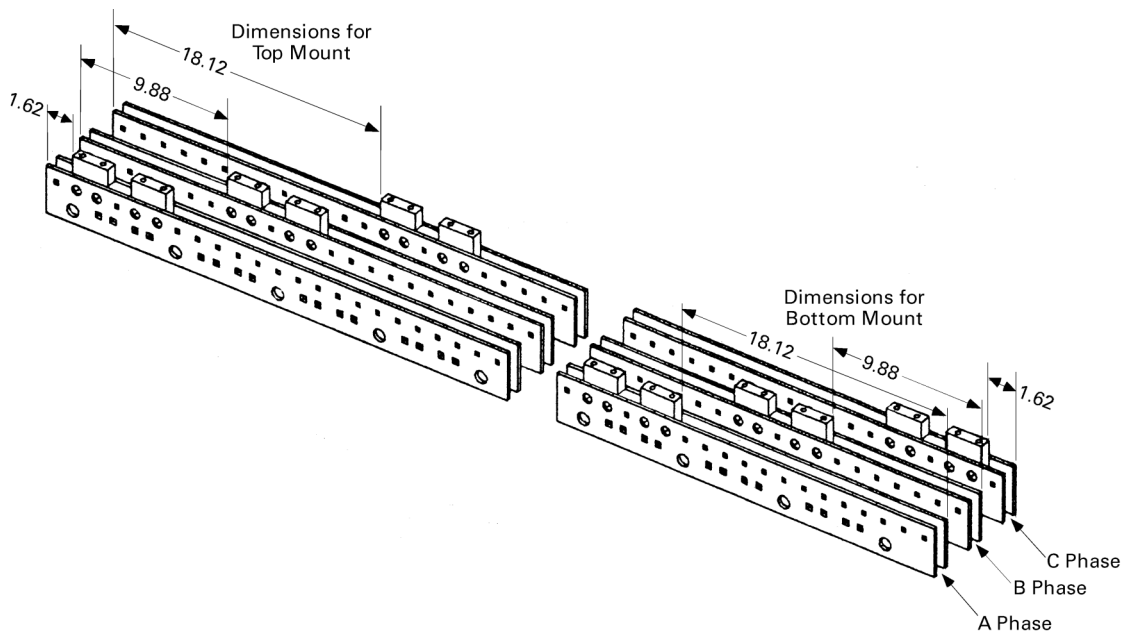

Figure 1. Bus connector blocks assembled between the bus bars.
- 1. Assemble the bus connector blocks.** Locate the switch on the interior at the extreme top or bottom position. Before assembling the bus connector blocks, note if the panel will have top or bottom feed. Using the  $1/4-20 \times 1\frac{5}{8}$ " carriage bolts, flat washers, conical washers, and nuts provided, secure the blocks between the bus bars as shown in Figure 1. Tighten the bolts to 40–50 in-lb.